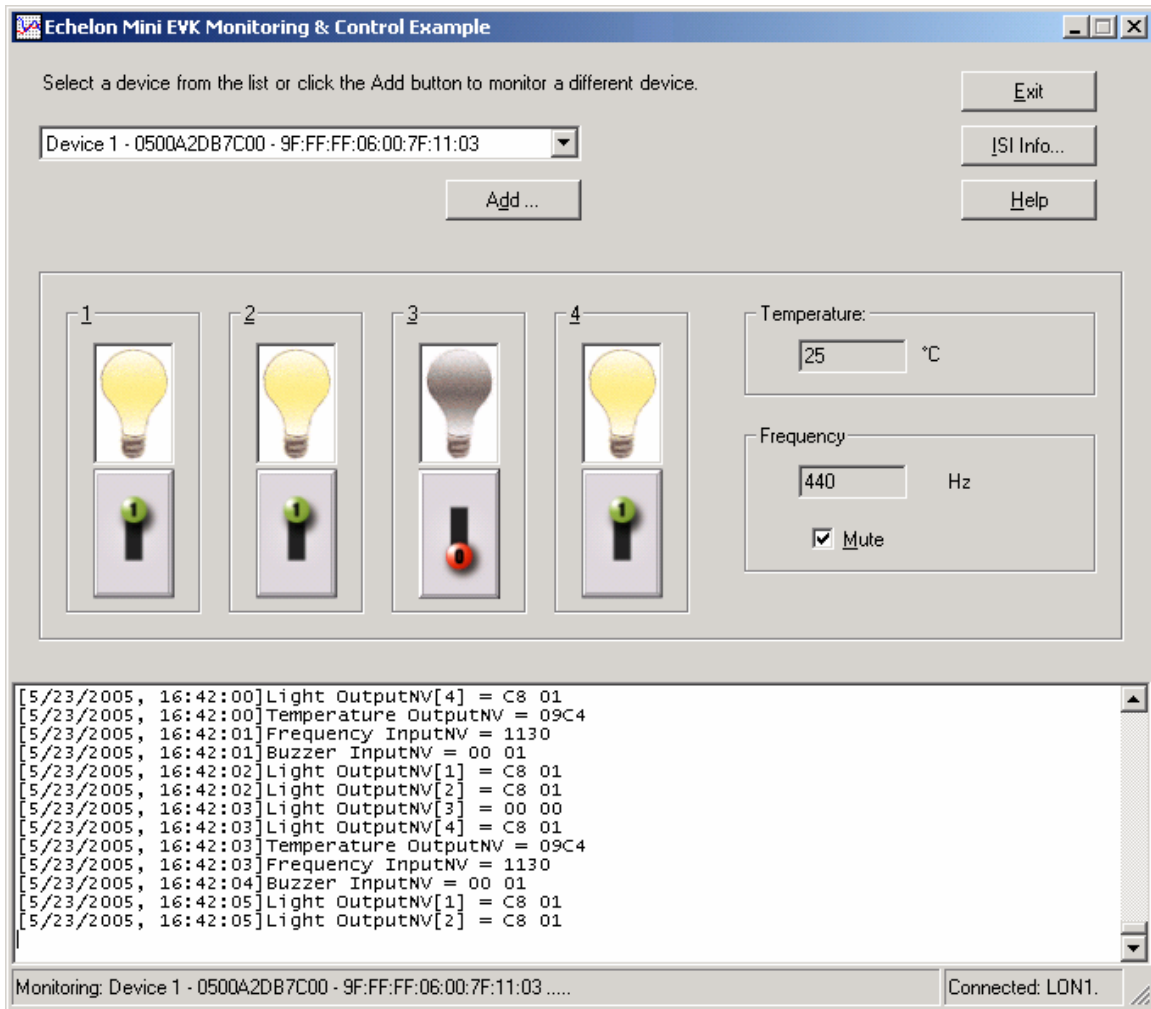

Figure 3.2 Monitoring & Control Application Main Window
3. Select a network interface, and then click **Connect**. The window shown in Figure 3.2 opens.
If you clicked the **Add** button, enter the Neuron ID of the target device in the **Neuron ID** box, and then click **OK** to return to the window shown in Figure 3.2. The Neuron ID is a unique 48-bit (12-hex digit) identifier contained in every LONWORKS device. The Monitoring & Control Example Application uses the Neuron ID to communicate with your selected device. For more information on Neuron IDs, see *Introduction to the LONWORKS System* in the **Echelon Mini EVK** program folder.
To add a device using the Service button, press the device’s Service button. On a Mini EVB, the service pin button is the black button labeled “**SERVICE.**” When the Monitoring & Control Example Application receives the service pin message, it displays the Neuron ID in the **Neuron ID** box on the Add Device dialog. Click **OK** to add the device and return to the window shown in Figure 3.2.
6. The window shown in Figure 3.2 displays the current temperature reading returned by the evaluation board’s temperature sensor, and the frequency used for the evaluation board’s piezo buzzer sound outputs.